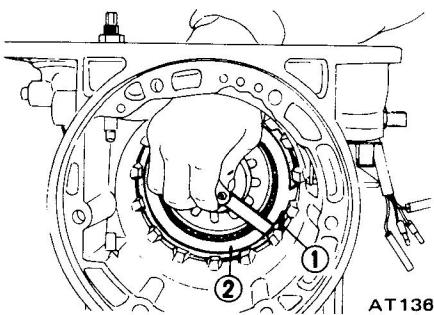

Fig. AT-70 Measuring ring to plate clearance
2. After low and reverse brake has been assembled, measure the clearance between snap ring ① and retaining plate ②. Select proper thickness of retaining plate that will give correct ring to plate clearance. See Figure AT-70.